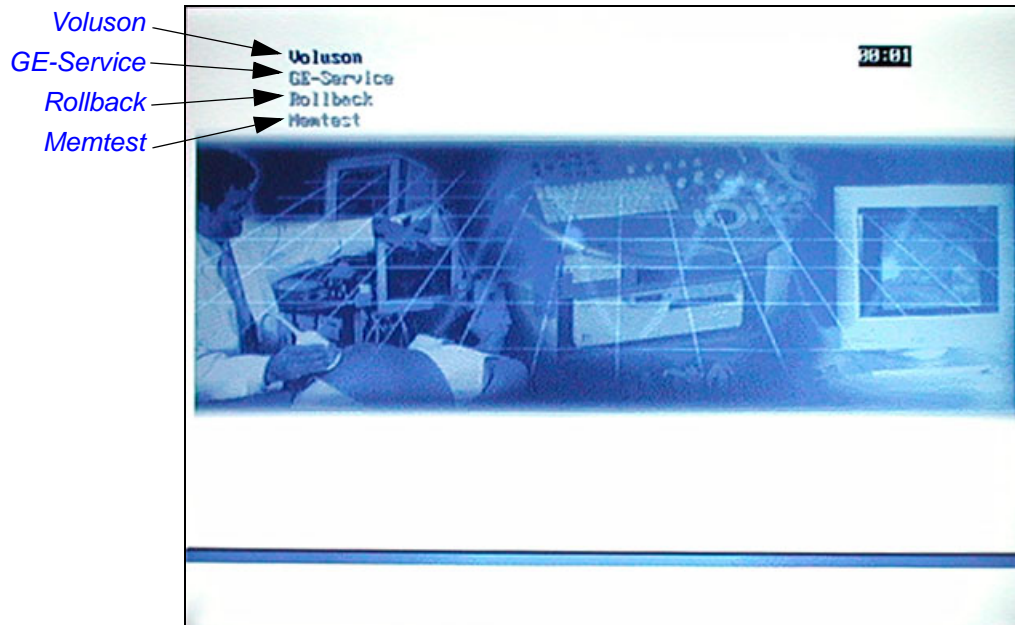

Figure 5-52 Boot screen (e.g., BT12)
- 2.) As soon as the "Boot Screen" appears (see: Figure 5-52 on page 5-75), press the **PG DN** [↓ Arrow down] key on the keyboard until the **Rollback** item is highlighted, then press **ENTER**.
- 2.) As soon as the "Boot Screen" appears (see: Figure 5-52 on page 5-75), press the **PG DN** [↓ Arrow down] key on the keyboard until the **Memtest** item is highlighted, then press **ENTER**.